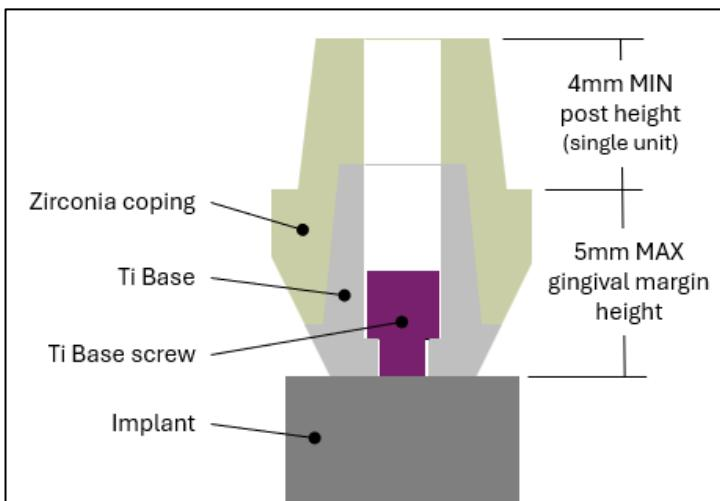

Figure 2 – Zirconia coping (superstructure) design limitations
- 5mm maximum gingival margin height (refer to **Figure 2**).
- Abutments with a post height less than 4.0 mm are intended for multi-unit restorations only (refer to **Figure 2**).